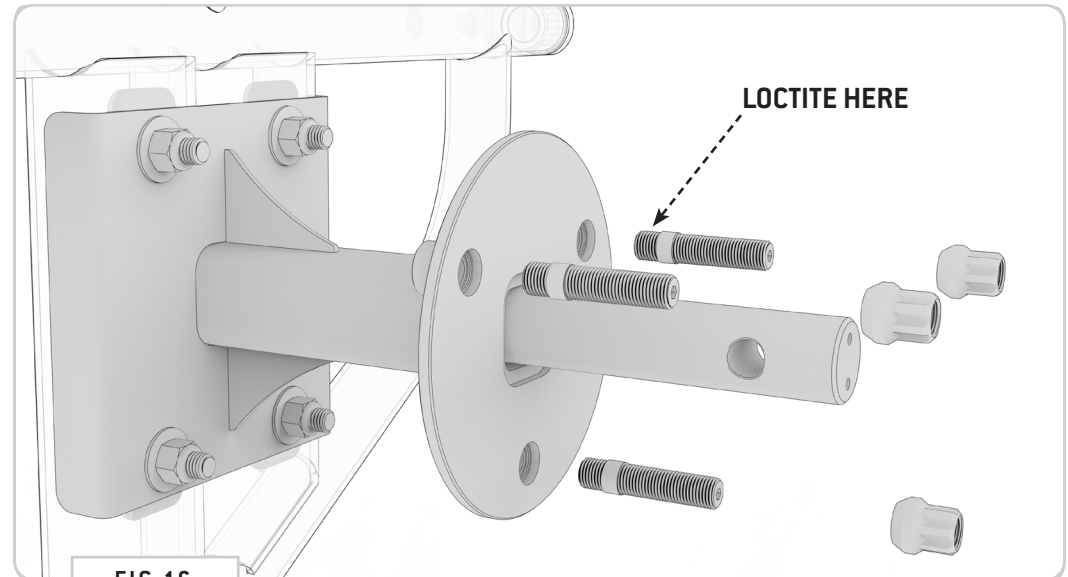

FIG 16
6.1 Wheel Studs and Lug Nuts: Apply Loctite to the **Wheel Studs** on the short end and screw them into the **Wheel Bracket**. Tighten with a **5mm Allen Wrench** (**FIG 16**).